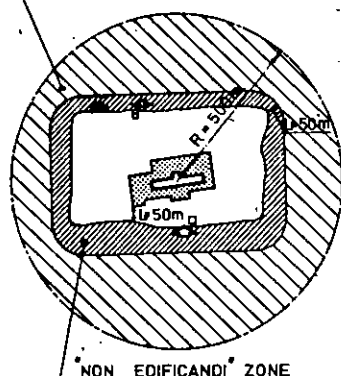

Fig. 6 Hospital zones for a site in the periphery of the city
- Hospital sites in the city periphery: if the hospital site is located in the periphery and the land around it is free although urbanised (Fig. 6), a 'non edificandi' strip should be established around the site with a minimum 50 m width. No construction must be allowed, unless approved by the health authority, in the zone that extends from the 50 m width to a circle of 500 m radius with its centre at the main hospital building.